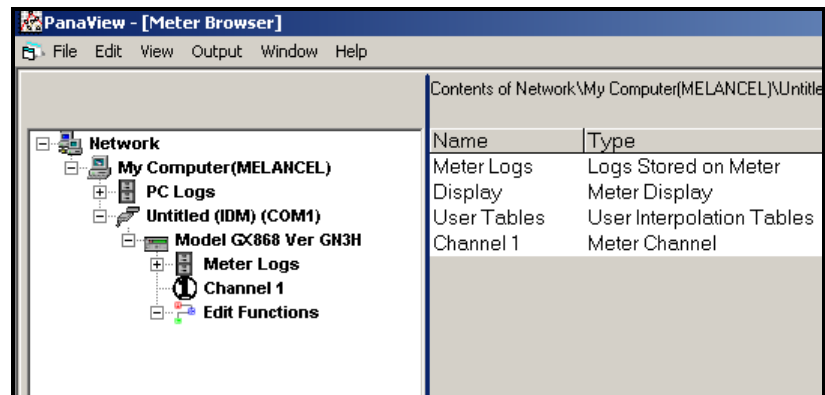

Figure C-18: *New Meter Browser* with Meter Branch
3. Then expand the meter tree as shown in Figure C-18 below.